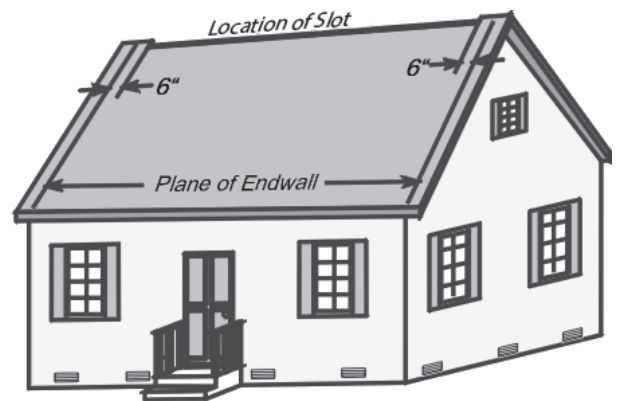

Figure 3
**NOTE: DO NOT CUT THE VENTILATION SLOT THE ENTIRE LENGTH OF THE RIDGE. THE LENGTH OF THE CUT WILL BE ONE (1) FOOT LESS THAN THE LENGTH BETWEEN THE END WALLS (SEE FIGURE 3).**
The length of the slot should end 6 inches inside each end wall as shown in Figure 3. Mark the width to be cut with a chalk line (for a straighter cut) and also mark the end of the slot. The slot is best cut with a circular saw taking care to set the depth of the cut to avoid cutting any rafters. Cut the slot and remove the cut decking.